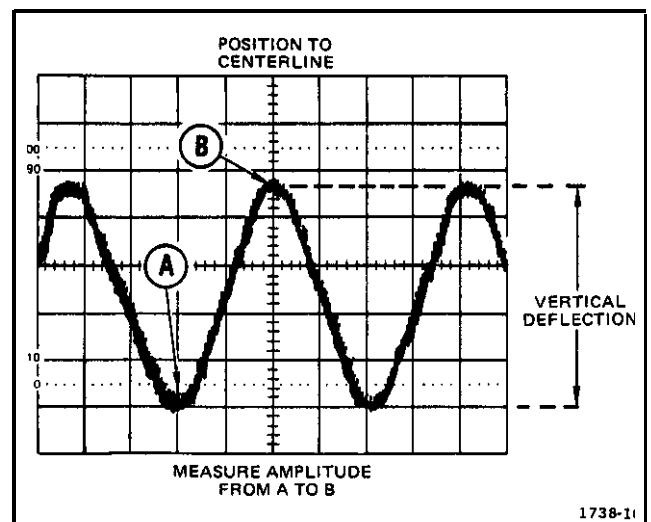

Figure 4-2. Peak-to-peak waveform voltage.
6. Vertically position the display so that the negative peak of the waveform coincides with one of the horizontal graticule lines (see Figure 4-2. Point A).
7. Horizontally position the display so that one of the positive peaks coincides with the center vertical graticule line (see Figure 4-2. Point B).
8. Measure the vertical deflection from peak to peak (see Figure 4-2, Point A to Point B).
EXAMPLE: The measured peak-to-peak vertical deflection is 4.6 divisions (see Figure 4-2) with a VOLTS/DIV switch setting of 0.5, using a 10X probe.